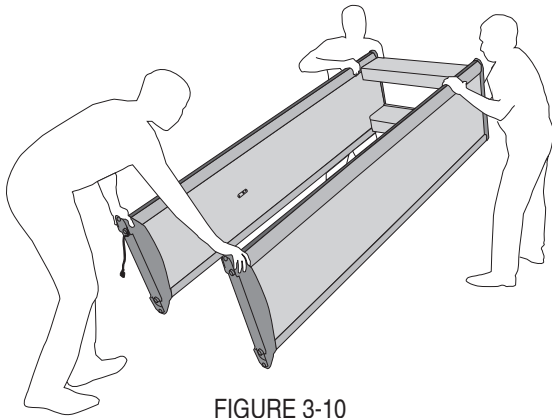

FIGURE 3-10
- Use two or more people to lift the MZ 6100 to a vertical position and move to desired location. (See Figure 3-10.)